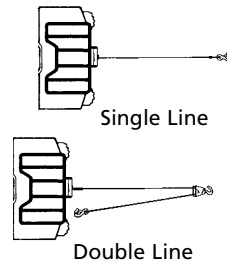

Figure 2
1. Maximum working load capacity is on the wire rope layer closest to the drum. DO NOT OVERLOAD. DO NOT ATTEMPT PROLONGED PULLS AT HEAVY LOADS. Overloads can damage the winch and/or the wire rope and create unsafe operating conditions. FOR LOADS OVER 1,000 POUNDS (454 kg), WE RECOMMEND THE USE OF THE OPTIONAL PULLEY BLOCK TO DOUBLE LINE THE WIRE ROPE (Figure 2). This reduces the load on the winch and the strain on the wire rope by approximately 50%. Attach hook to load bearing part. **The vehicle engine should be running during winch operation.** If considerable winching is performed with the engine off, the battery may be too weak to restart the engine.